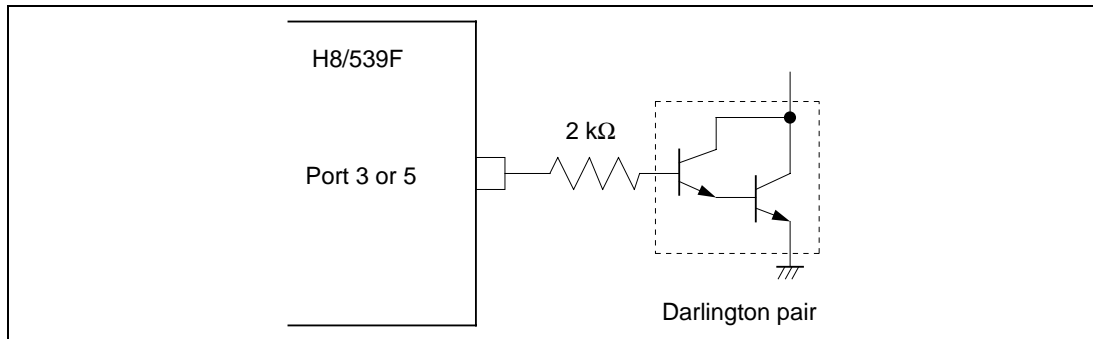

Figure 24-1 Darlington Pair Drive Circuit (Example)
2. When driving a Darlington pair or LED, always insert a current-limiting resistor in the output line, as shown in figures 24-1 and 24-2.